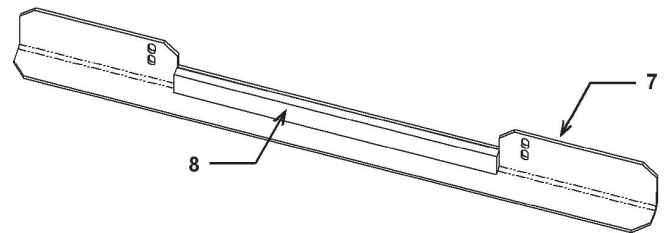

Figure 2. Rear Support Bracket and Foam
- Place one side bracket (2) on each side of the RPM4. Position each bracket with the front panel attachment flange (flange with two holes) facing the front of the RPM4.
- Attach the front panel (1) to the side brackets (2) using four M4 split lock washers (4) and four M4 hex nuts (3). Recommended torque is 3 Nm.
- Remove adhesive backing from foam strip (8). Adhere the foam strip to the rear support bracket (7), centering the foam as shown in figure 2.
- Attach the rear support bracket (7) to the side brackets (2) using four M4 flat washers (6) and four M4 X 12 SHC screws (5). Recommended torque is 3 Nm.
- For adequate support of the RPM4, the rear support bracket (7) shall be supported on the side rails of the rack system or by other means.